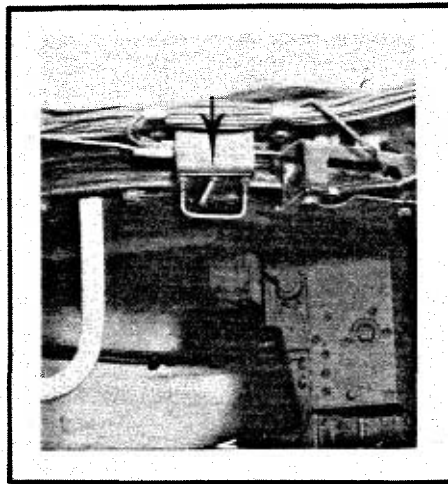

FIG. 3-103. CUPOLA POWER SWITCH
(b) Turn on the TC cupola power switch (Fig. 3-103).
(1) Select an object 400 meters from the tank and mark it with a flashlight.
(2) Turn on TC's turret power switch (See Fig. 3-103).